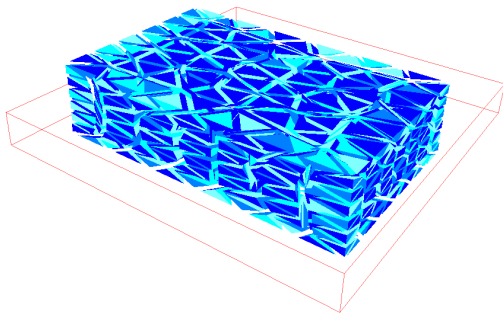

Figure 4: Skin2 behavior
- Behavior model: tetrahedra: Fig 4